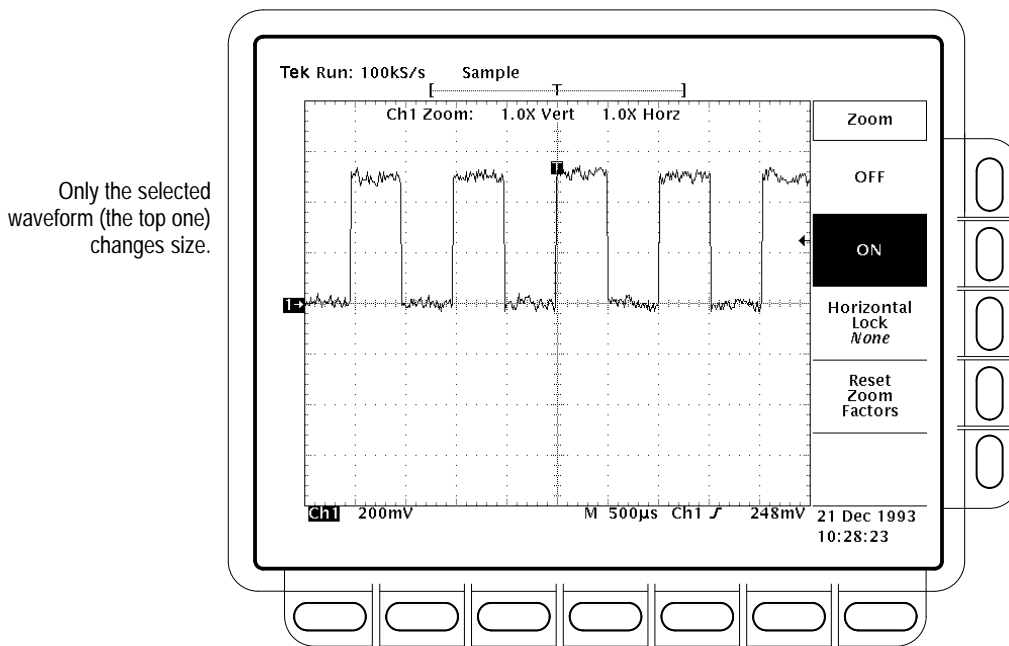

Figure 3–23: Zoom Mode with Horizontal Lock Set to None
*None* — only the waveform currently selected can be magnified and positioned horizontally (Figure 3–23).